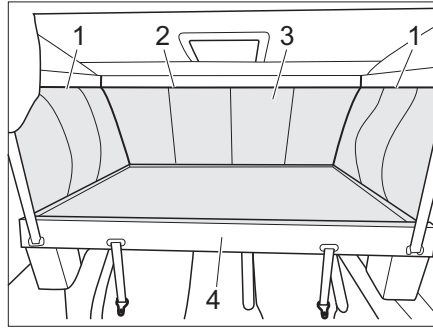

Fig. 78 Access to the blind box
- Lower the pull-down bed (Fig. 78,4) (see section 7.16.3).
- In order to release the pull-down bed sack (Fig. 78,3), open the side zips (Fig. 78,1) in the upper and front area from the front to back (Fig. 78,2).
- Remove the pull-down bed sack (Fig. 78,3) (Velcro fastener).